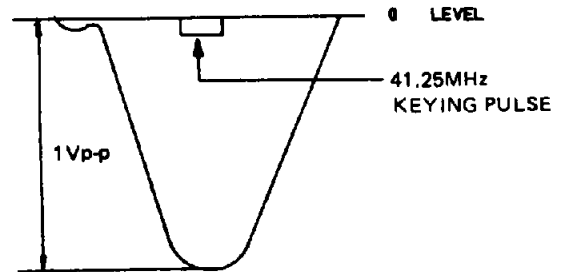

Figure 23. IF Sound Trap Response Curve
3. Adjust L105 for minimum amplitude of the keying pulse. (41.25MHz) (See Fig. 23)